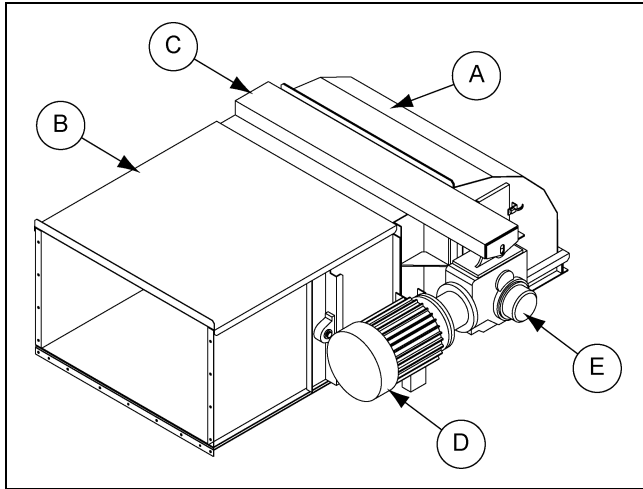

Figure 4U Right Angle Reducer Drive
In some cases, where there is not space on top of the head for the motor and motor mount assembly, a right angle reducer can be used. A right angle reducer (E) and motor (D) are shown in Figure 4U. When a right angle reducer is used, there is also no need for a belt drive package because the motor output is in a direct line with the reducer input. To install a right angle reducer drive, the reducer (E) is mounted onto the head shaft.